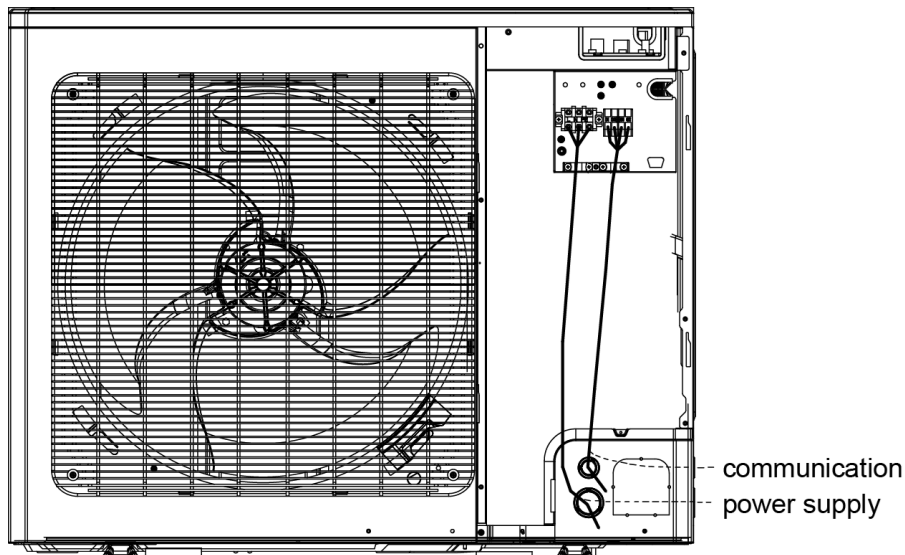

Fig. 22 Engineering Wiring View of GMV-24WL/C-T(U), GMV-28WL/C-T(U)
- (1) Please refer Fig. 22 for engineering wiring. If there is the hole for cable tie in wiring route, please fix the wire with cable tie. Connect the power cord and communication cable to the corresponding terminal board and grounding screw according to the wiring diagram.
- (2) Please be noted that engineering wiring cannot touch the pipe and appliance.
- (3) This figure is only applicable for engineering wiring reference of power supply and communication cable. If there are differences between the figure structure and actual unit, please refer to the actual unit.
- (4) For engineering wiring, please refer to the wiring diagram provided with the unit.